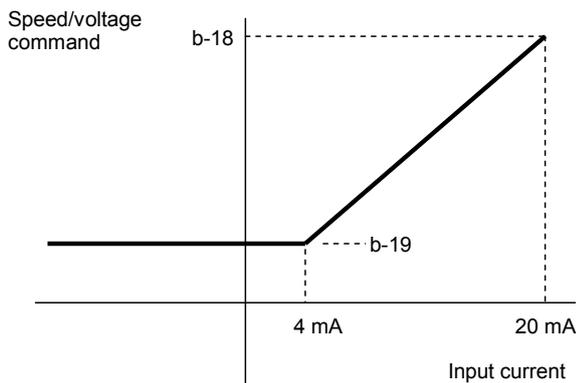
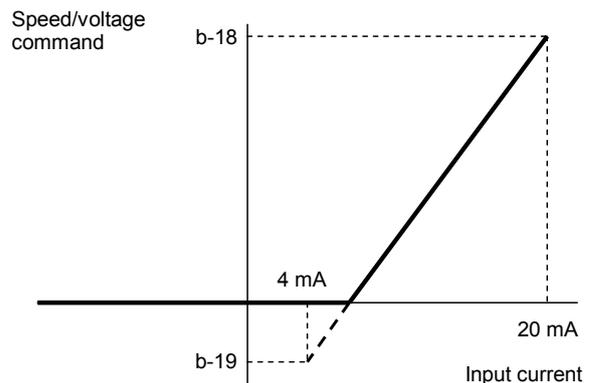

Figure 3-1 When 4 to 20 mA is selected (when b-19 is 0 or more)
Figure 3-2 When 4 to 20 mA is selected (when b-19 is less than 0)
**3. When the analog input (1) characteristics selection is 4 to 20 mA input (b-17 = 2)**
When 4 mA is input, the characteristics are the setting of the analog input (1) speed/voltage lower limit (b-19). When 20 mA is input, the characteristics are the setting of the analog input (1) speed/voltage upper limit (b-18) (Figure 3-1). However, those are effective for positive currents only. When a negative current is input, it is limited to the analog input (1) speed/voltage lower limit (b-19) (or 0 when a negative value is set to the analog input (1) speed/voltage lower limit (b-19)) (Figure 3-2).